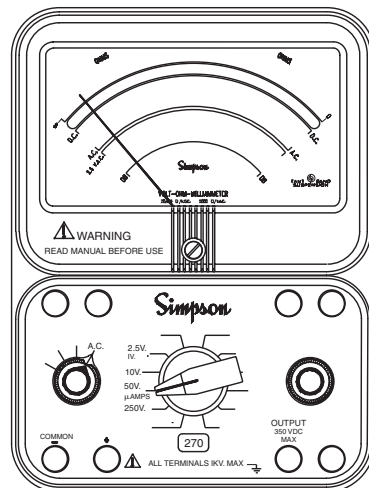

Figure 4-5. Jacks and Switch for Output Measurement
- a. Set the function switch at AC (Figure 4-5).